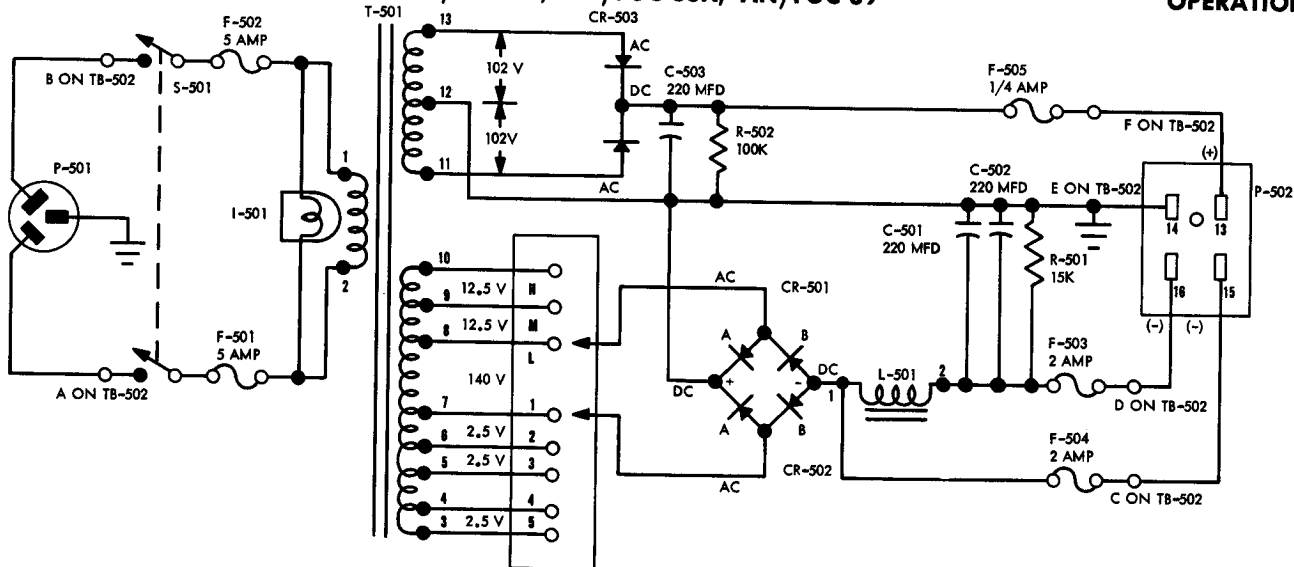

Figure 2-19. Power Supply PP-987/U, Schematic Diagram
c. **POWER SUPPLY PP-987/U.** (See figure 2-19.)— Input power, 115 volts ac, is obtained through three-conductor plug P-501, one prong of which is grounded. Switch S-501 applies the input power to the primary of T-501 through fuses F-501 and F-502. Pilot light I-501 is connected across the primary and indicates circuit energization. Secondary number 1, with an output of 140 volts ac across terminals 7 and 8, is connected to the selenium rectifiers CR-501 and CR-502. These selenium rectifiers are connected in a full wave rectifier bridge circuit. Since current can travel in only one direction in a selenium rectifier, the ac is rectified into dc. The selenium rectifier decreases in efficiency as it ages, therefore adjustment is provided by the taps on the secondary of the transformer. Output terminals 2, 3, 4, and 5 provide an additional 2.5 volts each in that order, and terminals M and H provide an additional 12.5 volts each in that order. The output of the selenium rectifiers is filtered by L-501, C-501, and C-502. R-501, the bleeder resistor, is connected across the output to improve voltage regulation. The positive side of the